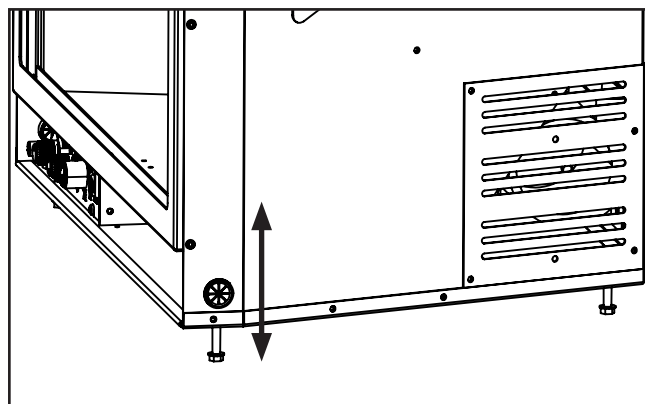

Figure 22: Levelling legs position.
15. Adjust the levelling legs to ensure the unit is level and high enough if a base shelf and/or riser is to be installed. There are four levelling legs on the bottom of the unit (shown in Figure 22).